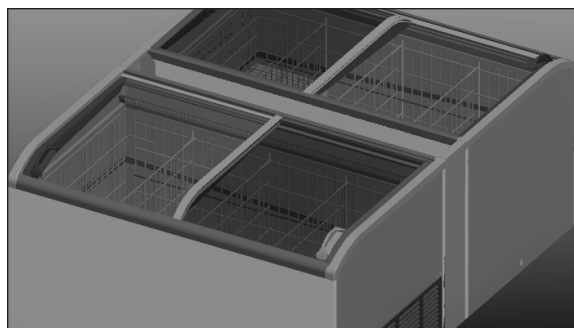

Fig. 9 Back-to-back column connection
6. Place the showcase back-to-back, lift the column, and connect the two cases together (Fig. 9).